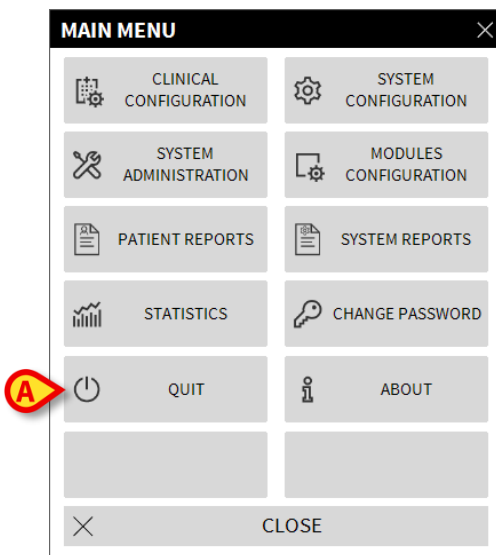

Fig 41
The **Quit** button on the Digistat Smart Central main menu (Fig 41 **A**) makes it possible to quit the Digistat Smart Central environment.
The Digistat Smart Central main menu will open (Fig 41).
- Click the **Quit** button (Fig 41 **A**)